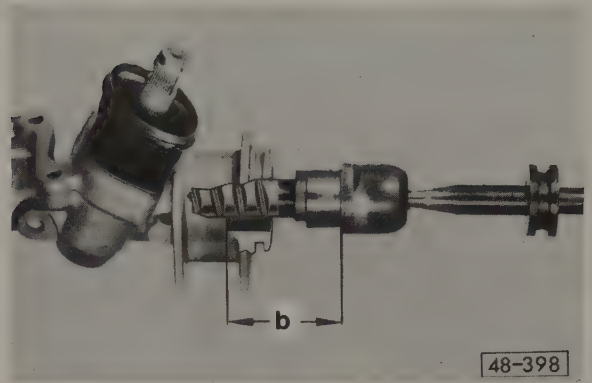

Fig. 7-7. Positioning new ball joint on manual steering rack. With rack centered, dimension **b** is 70.5 mm (2.77 in.).
5. With a new inner boot in place on the tie rod, thread the new tie rod onto the steering rack, adjusting the position of the tie rod as shown in Fig. 7-7. Tighten the locknut to hold this position.